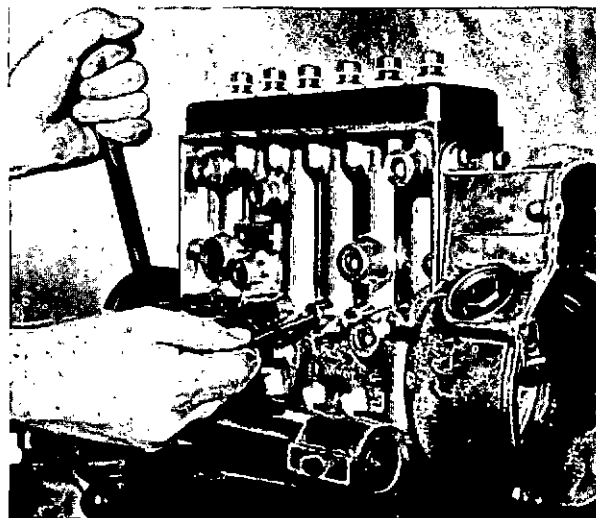

Fig. 3 Fitting tappet holders.
5. Referring to fig. 3, remove the eight tappet access screws from the pump casing. In turn, bring each tappet to TDC and fit a holder 1 681 115 12F to lift and retain the tappet clear of the cam lobe. To do this, proceed as follows, dependent on the pump stroke: